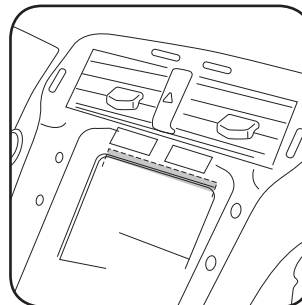

Fig. 1.7
8. Trim the plastic behind the OEM screen. (Fig. 1.7)